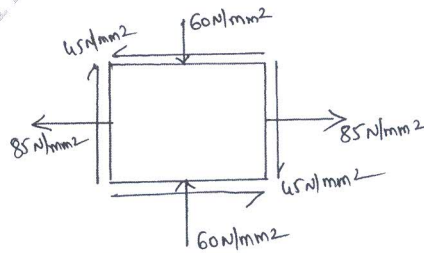

Fig.Q4
- The state of stress in a 2-D stressed body as shown in Fig.Q4. Determine principal stresses, principle planes, maximum shear stress and shear planes. Also verify your answer by constructing Mohr's circle.